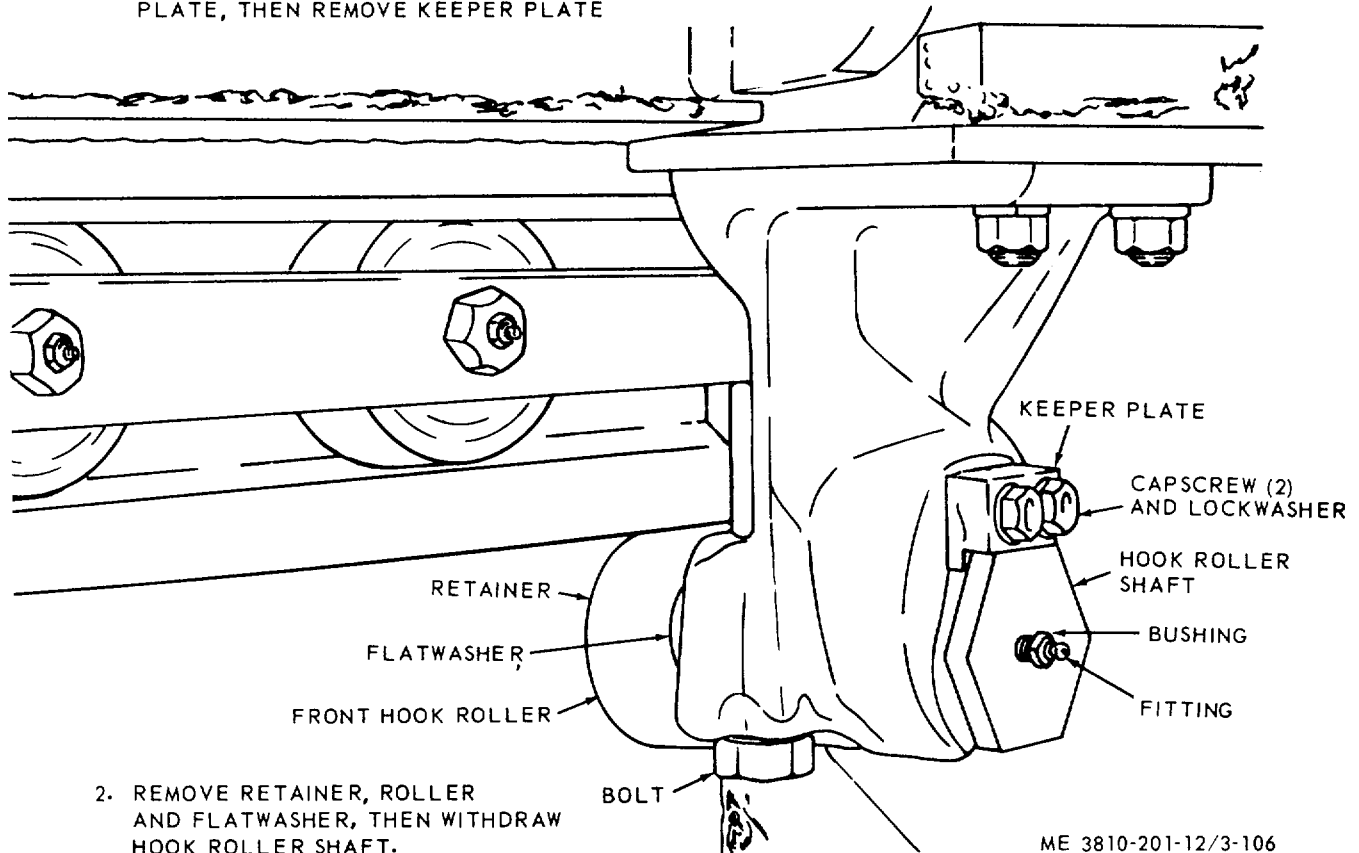

Figure 3-106. Front hook rollers, removal and installation.
- (2) Remove two capscrews, lockwashers, and keeper plate from bracket (fig. 3-106).
- (3) Drive hook roller shaft backward slightly to make locking accessible, remove locking, then pull hook roller shaft forward out of mounting bracket and remove hook roller.
- (4) Remove remaining hook roller in a similar manner.
- (5) Install in reverse order.